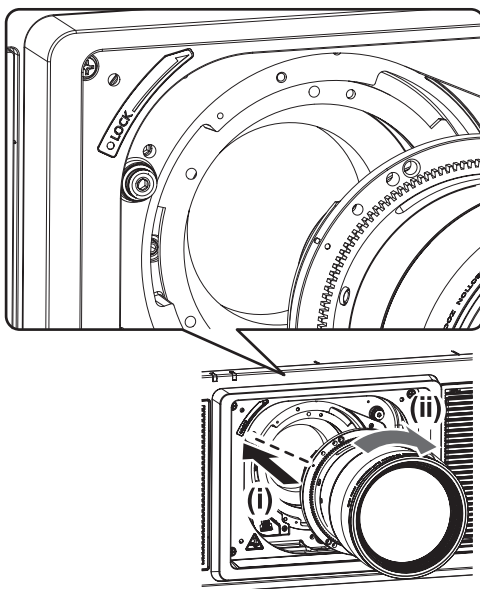

Fig. 3
- 3) **Insert the projection lens by aligning the mark on the projection lens (orange) with the mark on the projector (○ on the left side of LOCK) and turn clockwise until it clicks. (Fig. 3)**